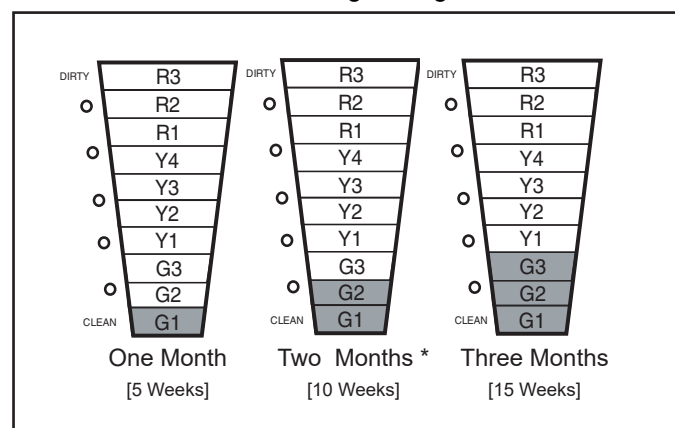

Figure 24 Green LED Pre-Filter Settings
- The three GREEN LED's are used to indicate PRE-FILTER cleaning interval. This is measured in actual run time of the indoor fan. The default setting is 2 months [10 weeks]. See Figure 24.
PRE-FILTER SETTING (Figure 24) 24V Mode Only.